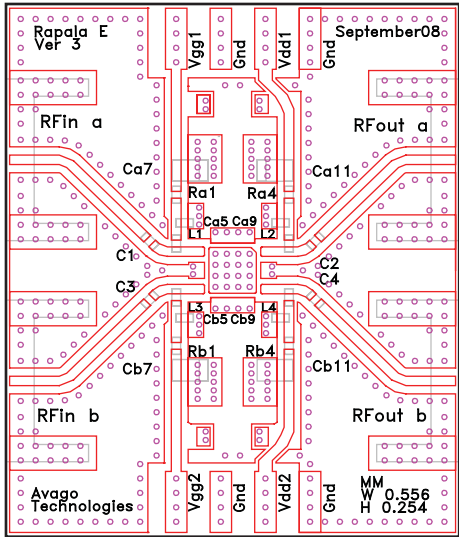

Figure 5. Demo Board Layout Diagram
RF performance at $T_A = 25^\circ\text{C}$, $V_{dd} = 5\text{V}$, $I_{dd} = 50\text{mA}$, 850MHz and 900MHz given for each RF channel, measured on demo board in Figure 5 with component list in Table1 for 850 MHz matching.
7. Measurements at 850 MHz and 900 MHz are obtained using demo board described in Figure 5.
RF performance at $T_A = 25^\circ\text{C}$, $V_{dd} = 5\text{V}$, $I_{dd} = 50\text{mA}$, given for each RF channel, measured on demo board in Figure 5 with component list in Table1 for 850 MHz matching. IIP3 is measured with input power of -15dBm per tone.
RF performance at $T_A = 25^\circ\text{C}$, $V_{dd} = 5\text{V}$, $I_{dd} = 50\text{mA}$, given for each RF channel, measured on demo board in Figure 5 with component list in Table1 for 850 MHz matching.